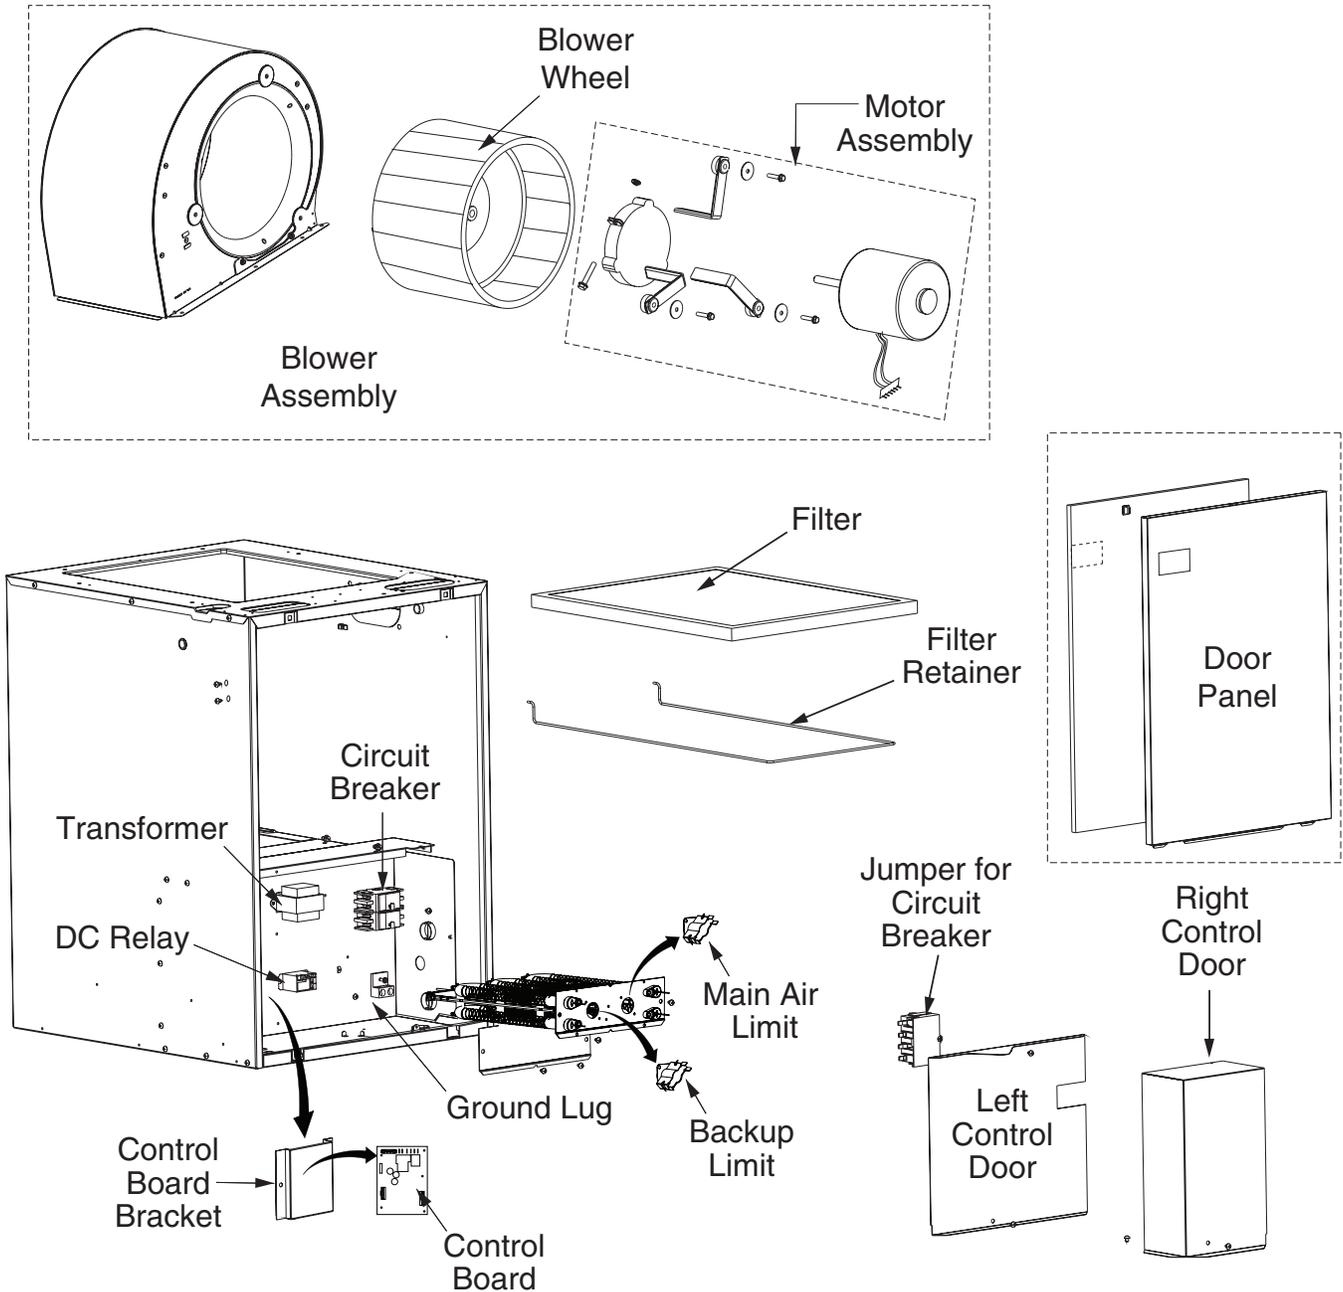

Figure 16. E7 Appliance Components (Multi-Poise Shown)
containing the correct fuse or circuit breaker for the Appliance. For minimum circuit ampacity and maximum over-current protection, see Table 7. See unit wiring diagrams (Figure 23 \(page 19\), Figure 24 \(page 20\), Figure 25 \(page 21\), Figure 26 \(page 22\) & Figure 27 \(page 23\)) for wiring details. Electrical components are shown in Figure 16 \(page 12\). Supply circuit requirements are listed below:
7. Connect service ground wire(s) to grounding lug(s) provided. See Figure 16 (page 12). One ground is required for each supply circuit used.